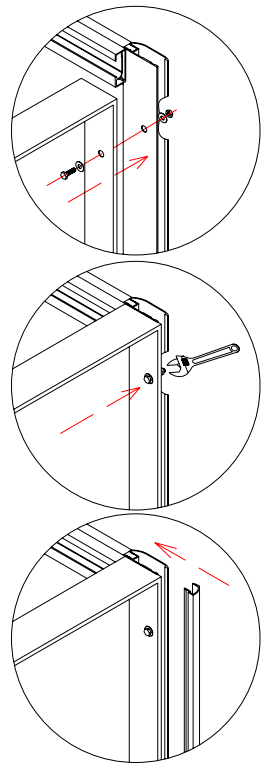

Fig 7
7. Put the glass enclosure assembly onto the tray and adjust the position. Use M6×16 bolt sets to connect the vertical profiles and back panel (fig 7 & 8);